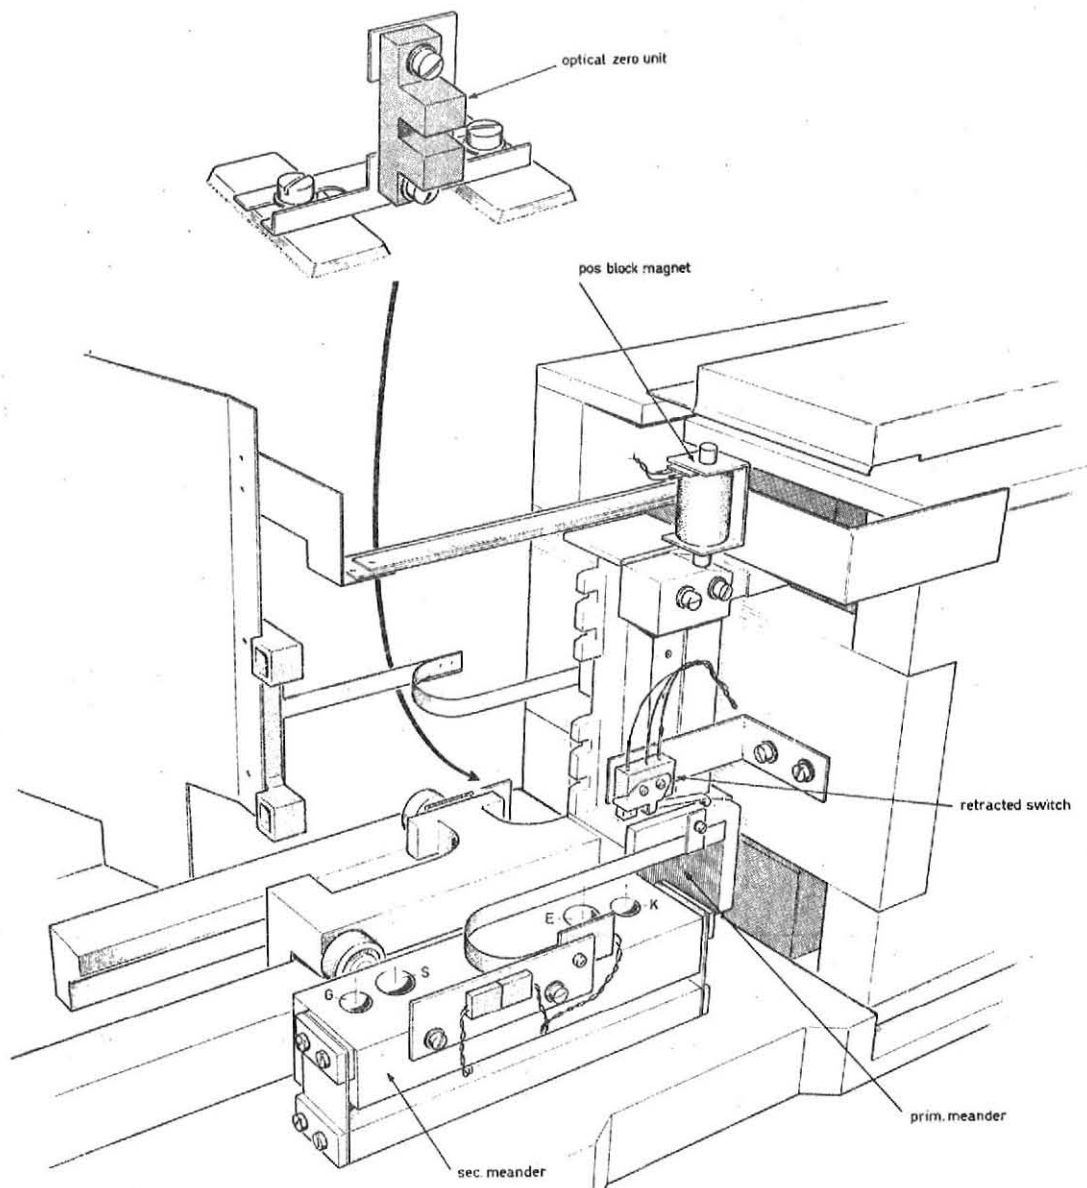

Figure 7-32
5.6 RETRACTED SWITCH (figure 7-32)
5.7 POSITIONER BLOCK MAGNET (figure 7-32)
5.8 OPTICAL ZERO UNIT (figure 7-32)